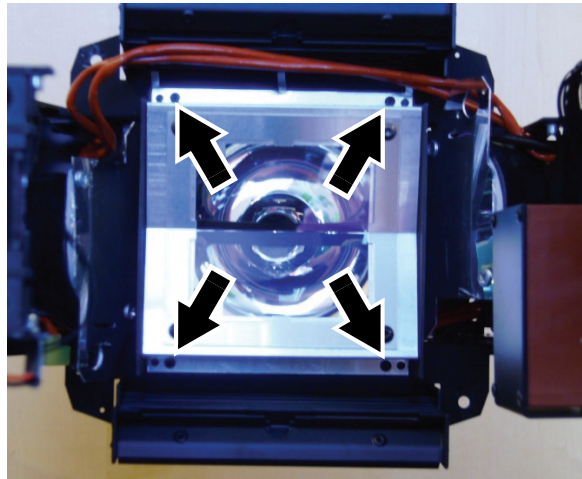

Figure 64
69. See Figure 64. Remove the 4 retaining screws (arrowed) from the heat shield assembly and remove the assembly. You will need to open the bend-over tabs and move the thermoswitch wiring out of the way for access to two of the screws. Keep the screws for re-use. Now is a good time to clean the reflector using 99.9% isopropyl alcohol.